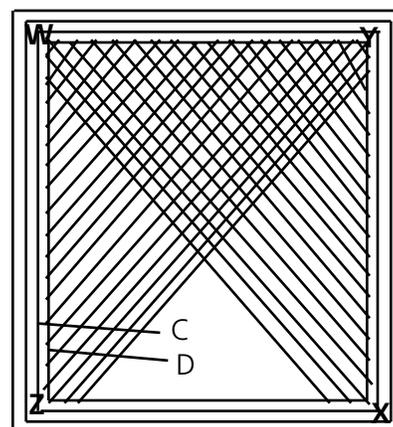
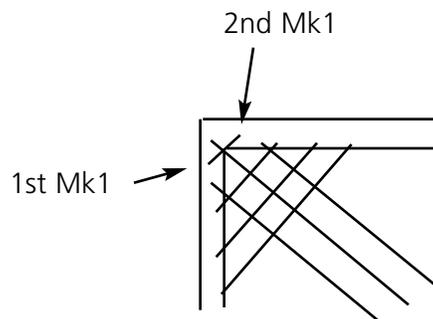

Figure 6-7
Figure 6-8
8. Digitize the two fills shown in Figure 6-7 with one diagonally from W to X, and another diagonal fill from Y to Z.
When digitizing the two crisscrossing fills as shown in Figure 6-7, enter the Mark points for the fill beyond the inner line (D) midway between lines C and D.
9. Start the first diagonal fill at W in the illustration in Figure 6-7. Make the first line by entering a Mk1 at the lower left end of the plot line running diagonally on the corner shown as location (a) in the enlargement of the W corner in Figure 6-8.
10. Finish the first line at W in the Figure 6-7 by entering a Mk1 at the upper right end of the plot line running diagonally on the corner shown as (b) in the enlargement of the W corner in Figure 6-8.
11. Continue to digitize the first set of fill parameters by identifying the second line at X in Figure 6-7 in the same manner as in steps 8 and 9.
13. Now identify the second fill starting at corner Y in Figure 6-7. Identify it in the same fashion as you did the first fill.